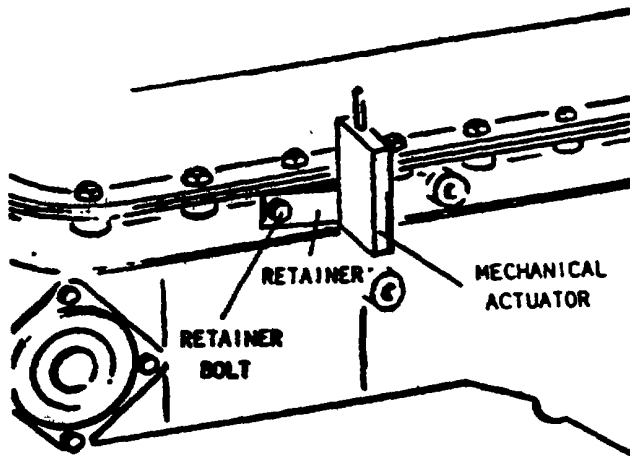

Fig. 5-3. Removing mechanical actuator retainer bolt
(1) Rotate the transmission, oil pan side upward.
(2) Remove the bolt and retainer from the transmission case (fig. 5-3).